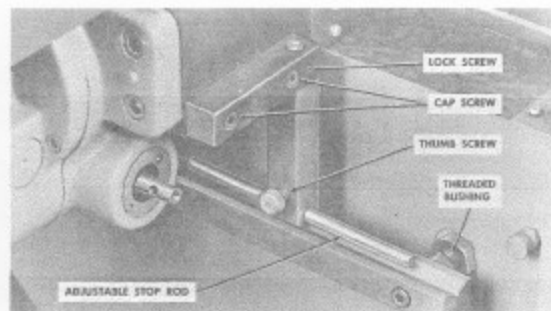

Fig. 35. Adjustable stop attached to back of saddle.
- C. Attach adjustable stop rod holder to back of saddle as shown in Fig. 35.
- D. Attach short tray to side of knee, using threaded bushing assemblies to align both ends of tray with stop rod. See Fig. 35.